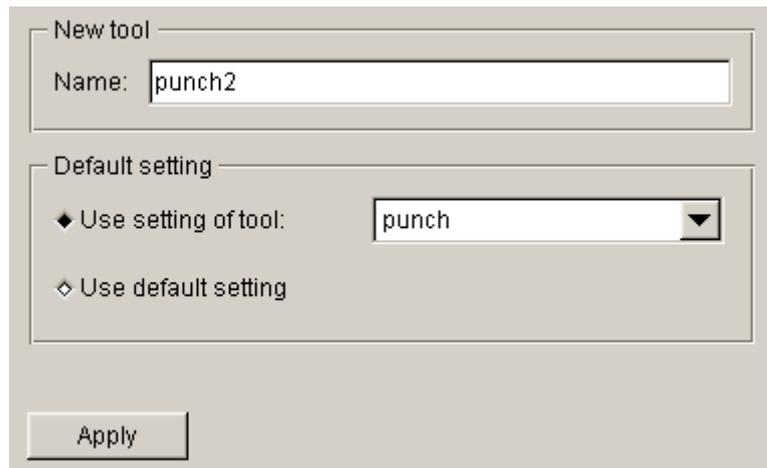

Figure 5.59 Create new tool
31. From tool definition interface, click **New tool** button to create a new tool named **pun2**. Select the default setting shown in Figure 5.59. Then, click **Apply** button.